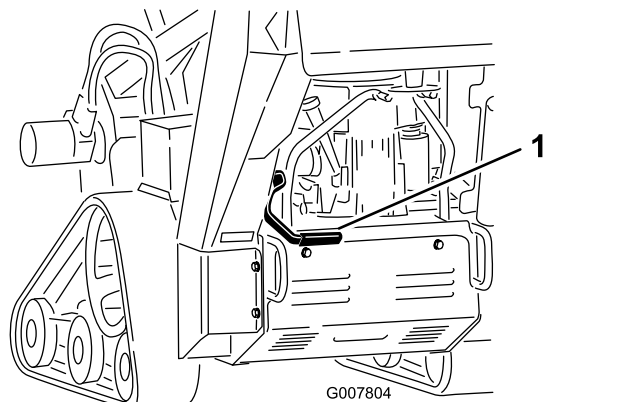

Figure 14
- To engage the parking brake, pull the brake lever rearward and up (Figure 14).
- To disengage the parking brake, pull the lever rearward and then down (Figure 14).